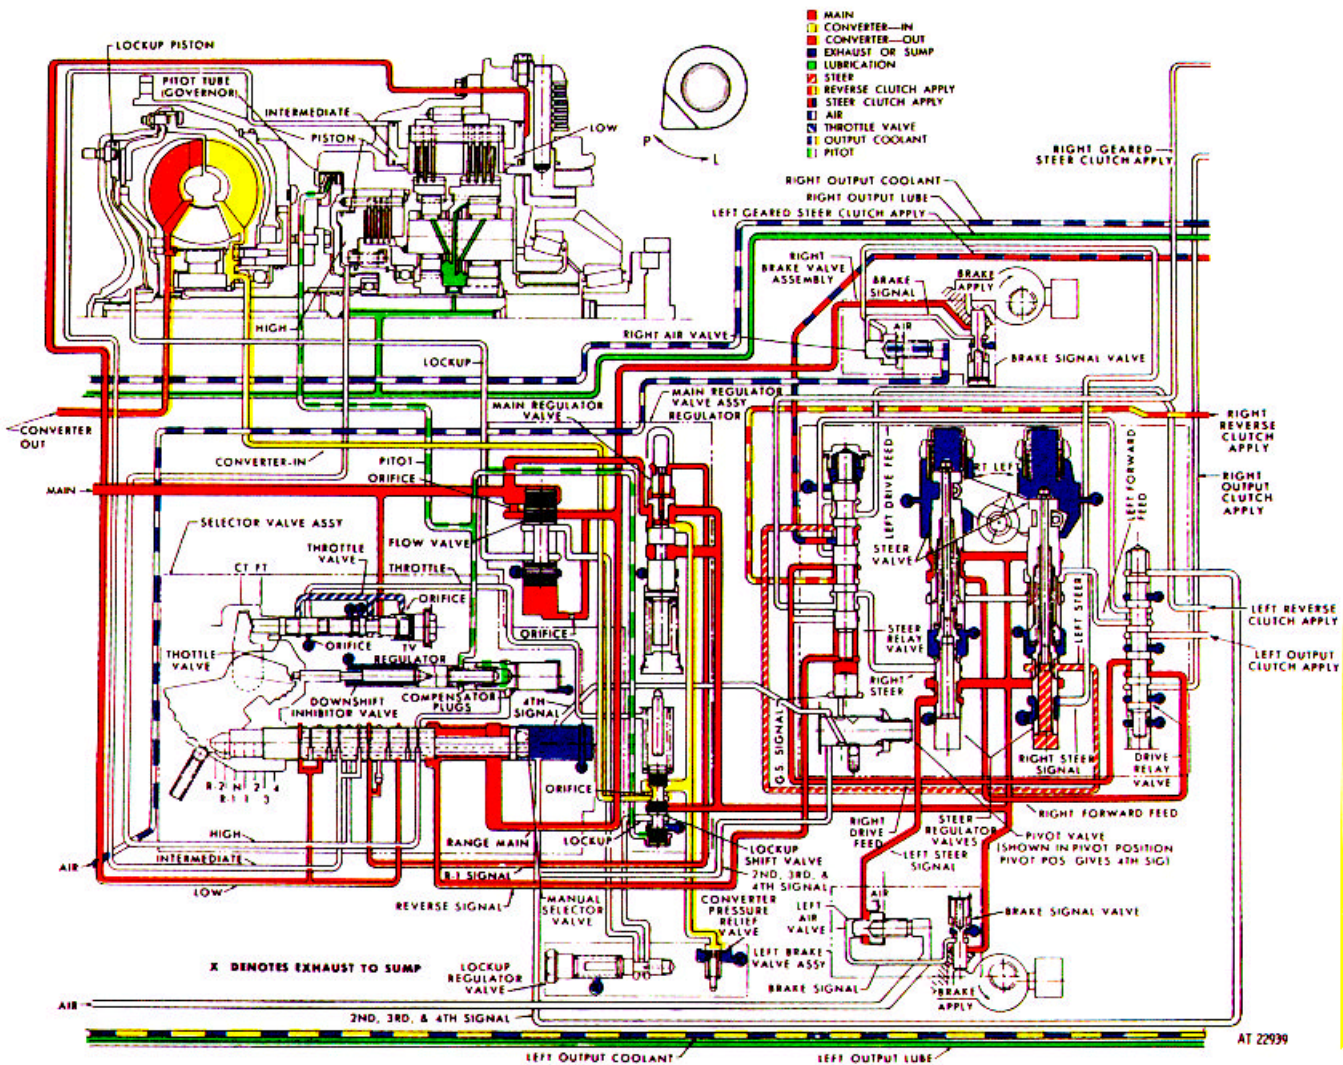
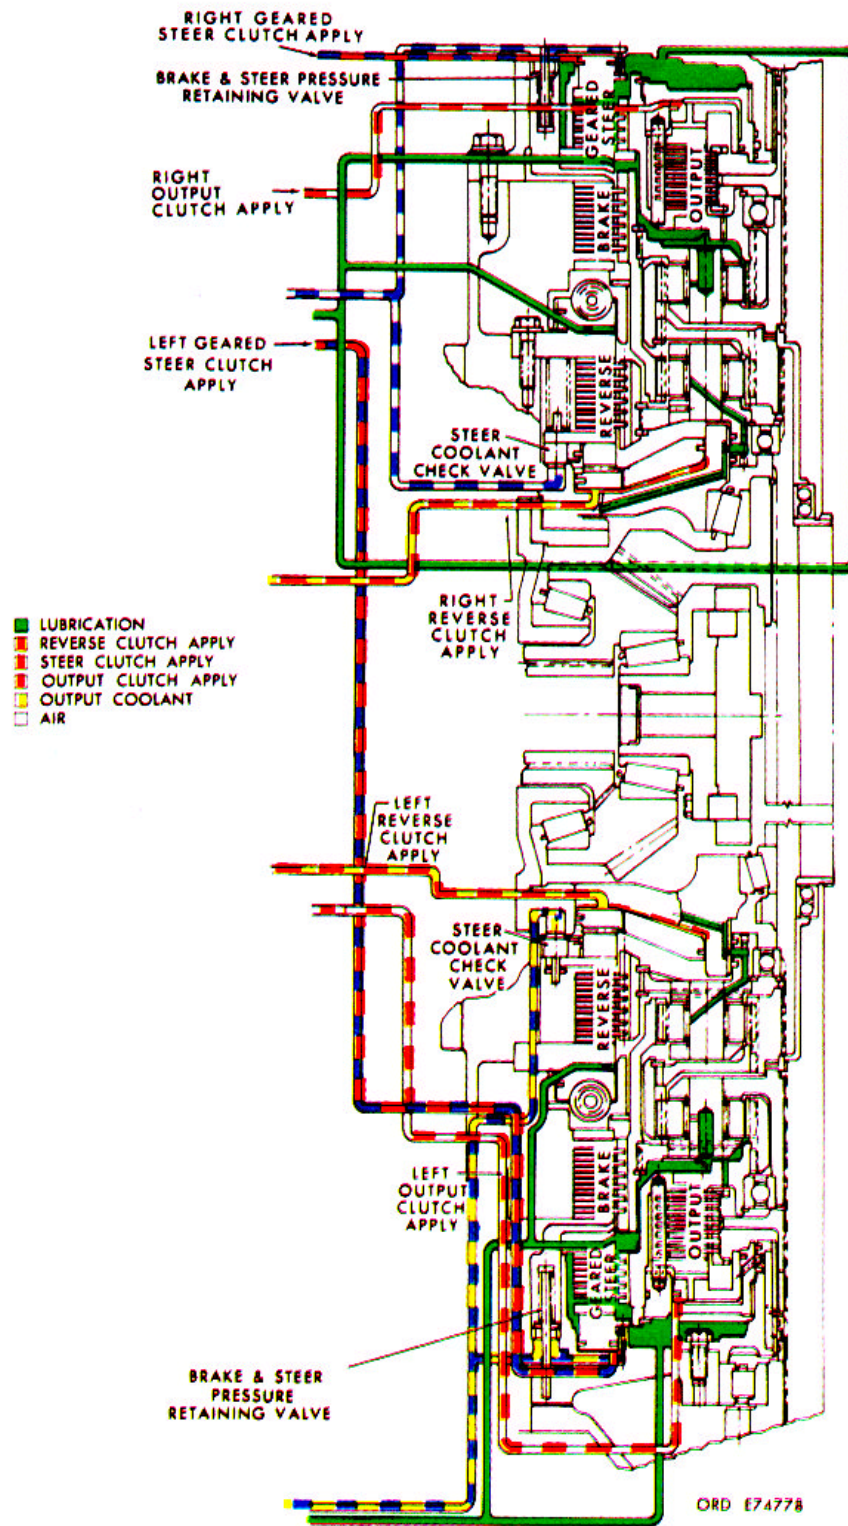

Figure 2-12. Hydraulic system, reverse-1 gear, pivot left steer operation-schematic view.
Figure 2-13. Hydraulic system, output components-Schematic view.
(1) The manual selector valve directs main pressure oil through the R-1 signal circuit to the top of the main-pressure regulator valve. The oil enters the valve body above the regulator valve and causes the regulator valve to move downward. Thus, main pressure is regulated at a lower pressure because the return spring must balance a greater opposing force. (para 2-34a (6))
(2) Main pressure is lowered in this driving condition to limit the torque through the driving clutches. If full torque were to be directed through this gear combination it could be detrimental to the transmission components.
f. *Steer Relay Valve.* The steer relay valve directs main-pressure oil through the reverse clutch apply lines to the respective reverse clutches (fig. 2-13).
forward feed. The downward movement also allows the left geared steer clutch (driving clutch) to exhaust through a port in the right steer valve. Simultaneously, main pressure is admitted to the lower portion of the steer valve bore, regulated, and directed through the steer relay valve to the left reverse clutch (fig. 2-13).
(1) During left steer operation, the right steer valve is moved upward. (The steer valves move in opposite directions due to an interconnecting pivot arm.) The upward movement of the right steer valve does not interrupt the apply circuit to the right steer clutch. Thus, it remains engaged as the driving clutch (fig. 2-13).
(2) The lower portion of the valve also moves upward. This movement allows main-pressure oil to enter the left steer signal circuit. Pressure in this
(1) The valve, in the downward position, directs regulated steer pressure from the right steer valve to the right reverse clutch (fig. 2-13), causing it to function as the steering element.
(2) When the steer relay valve is in the upward position (fourth-gear signal), the reverse clutch is exhausted and regulated steer pressure is directed to the output clutch (fig. 2-13). Thus, pivot steer is prevented in fourth gear (para 2-38e).
2-44. Reverse-1 Gear, Pivot Left Steer (fig. 2-12)
left steer clutch (fig. 2-13) and allows the left reverse clutch to exhaust.
2-45. Output Components (fig. 2-13)
a. *Composite Illustration.* Figure 2-13 is a composite of all driving conditions which can occur in the output sections of the transmission. The conditions, as illustrated, can occur either independently or simultaneously. The clutch apply circuits are color coded to match the charging circuits shown in figures 2-2 through figure 2-12. The lubrication, brake coolant, and air circuit are color coded and match the circuits in figure 2-1 through figure 2-12.